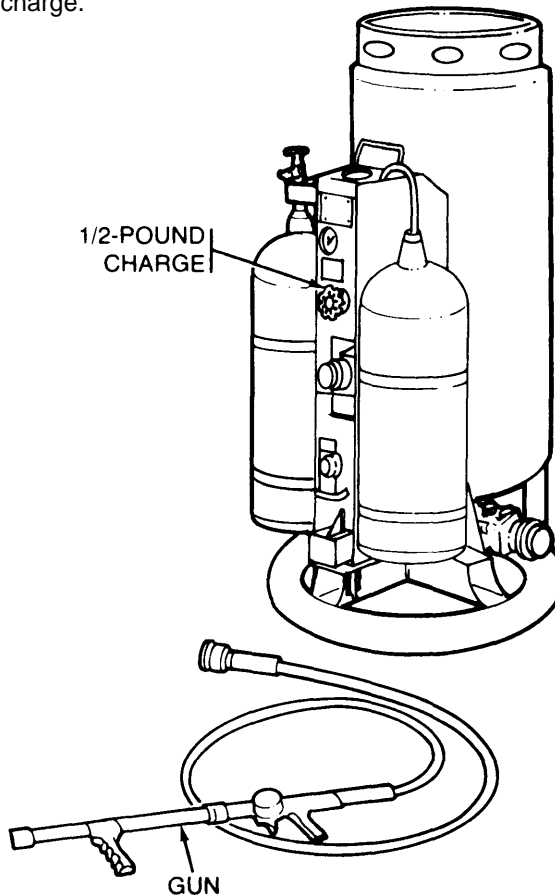

Figure 3-2. Explosive Charge Location for M5 Disperser.
(1) Fasten 1/2-pound explosive charge on top of pressure regulator (fig 3-2).
(2) Tape, tie, or wire disperser gun next to charge.